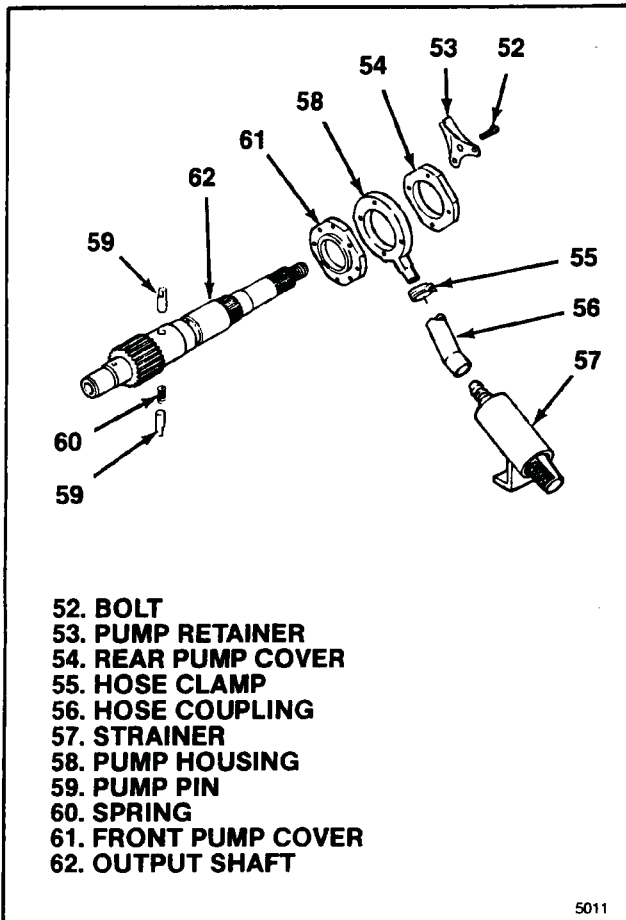

Figure 3-8. Pump Parts
**3-13. REMOVAL OF OIL PUMP PARTS.** From remaining transfer case assembly (52 through 121) remove the following (see figure 3-8):
- a. Remove four bolts (52) and retainer (53). Slide rear pump cover (54) off output shaft (62).
- b. Loosen hose clamp (55) and separate hose coupling (56) from pump housing (58). Slide pump housing off output shaft (62).
- c. Remove hose clamp (55), hose coupling (56) and strainer (57).
- d. Remove two pump pins (59) and spring (60) from output shaft (62).
- e. Slide front pump cover (61) off output shaft (62).